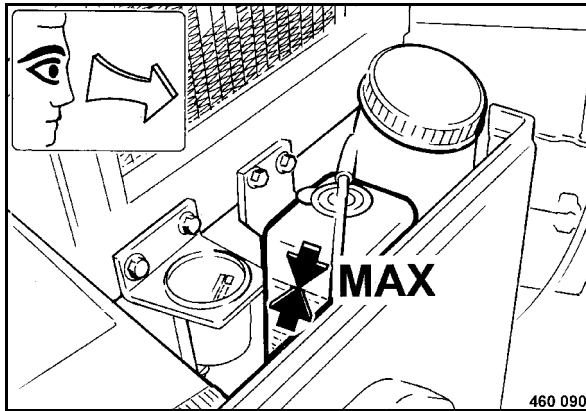

Fig. 129
- Fill in coolant up to the "MAX" mark (Fig. 129).